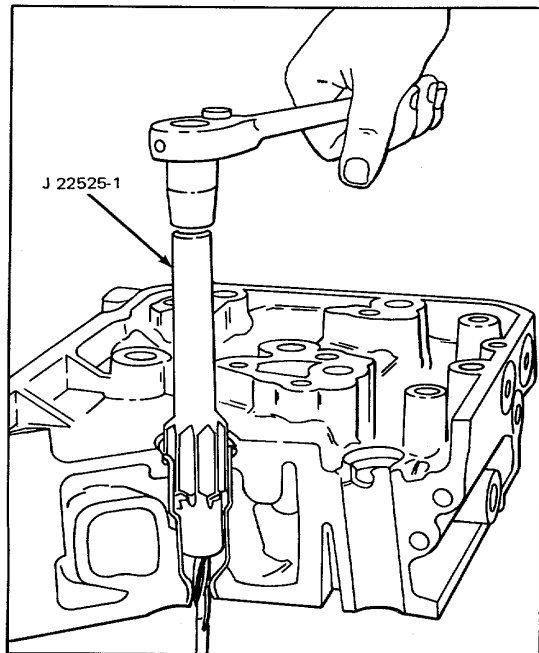
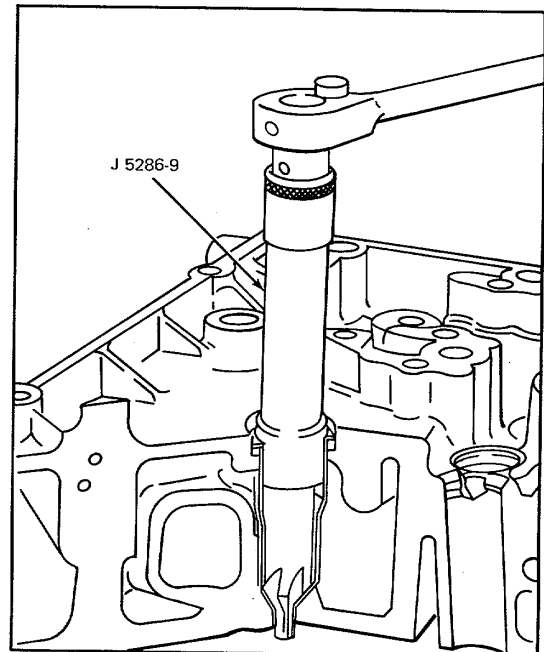

Figure 4. Reaming Injector Tube for Injector Body Nut and Spray Tip
Figure 5. Reaming Injector Tube for Injector Nut
After an injector tube has been installed in a cylinder head, it must be finished in three operations: First, hand reamed, as shown in Fig. 4, to receive the injector body nut and spray tip; second, spot-faced to remove excess stock at the lower end of the injector tube; and third, hand reamed, as shown in Fig. 5, to provide a good seating surface for the bevel or the lower end of the injector nut. Reaming must be done carefully and without undue force or speed so as to avoid cutting through the thin wall of the injector tube.
b. Turn the reamer in a clockwise direction (withdrawing the reamer frequently for removal of chips) until the lower shoulder of the reamer contacts the injector tube (Fig. 4). Clean out all of the chips.